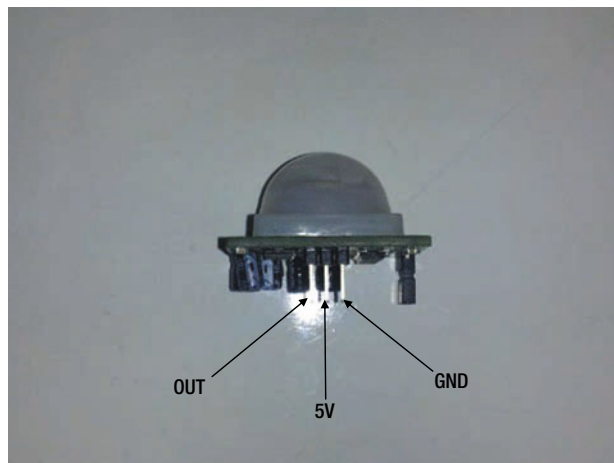

Figure 19-1. A PIR sensor with its pinout
One of the new pieces of hardware for Challenge 5 is the passive infrared (PIR) sensor shown in Figure 19-1. This PIR sensor detects changes in infrared (heat) radiation, which makes it very easy to adapt it to motion detecting as every object has some form of heat radiation. All forms of matter produce heat, especially people! The PIR sensor can detect the body heat given off by a person.
Notice in Figure 19-1 that the PIR sensor has three pins (just like the temperature sensor you've already used). The 5V pin (in the center) is where you'll provide 5 volts; this will come from the Arduino.
10. Now let's bring the Arduino into the circuit. Connect the Out pin (refer to Figure 19-1) of the PIR sensor to the Arduino by running a wire (we used green) from I-5 to D6 (digital pin 6) on the Arduino. Figure 19-11 illustrates this process.